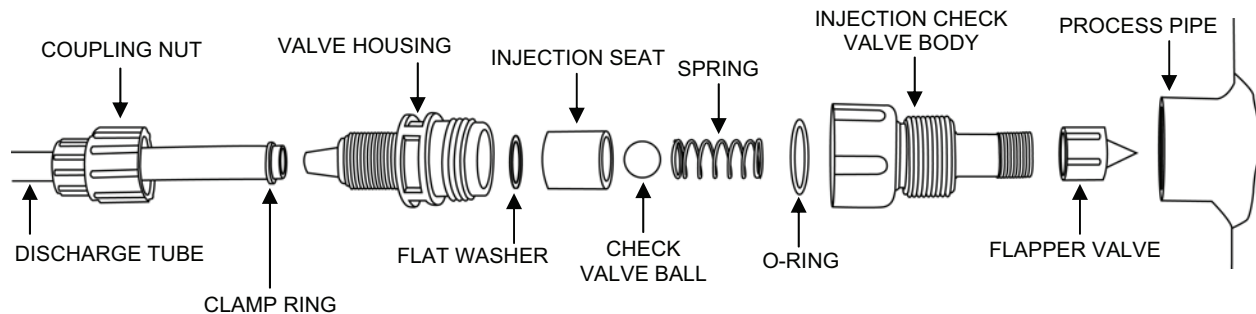

Figure 6. Injection Check Valve Assembly Replacement.
4. Remove the old injection check valve assembly as follows (see Figure 6):
5. Install the new injection check valve assembly as follows (see Figure 6):